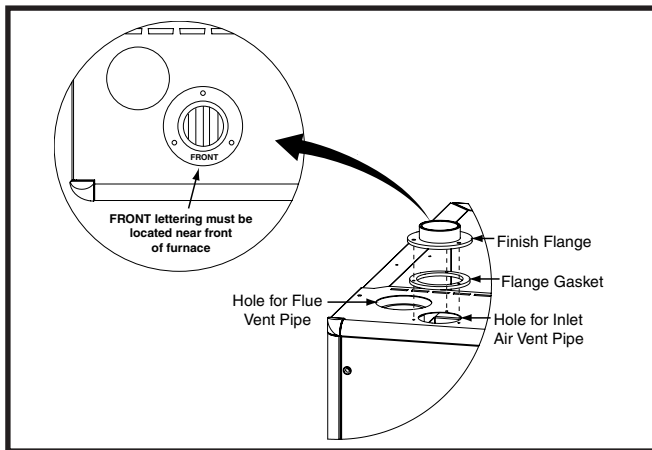
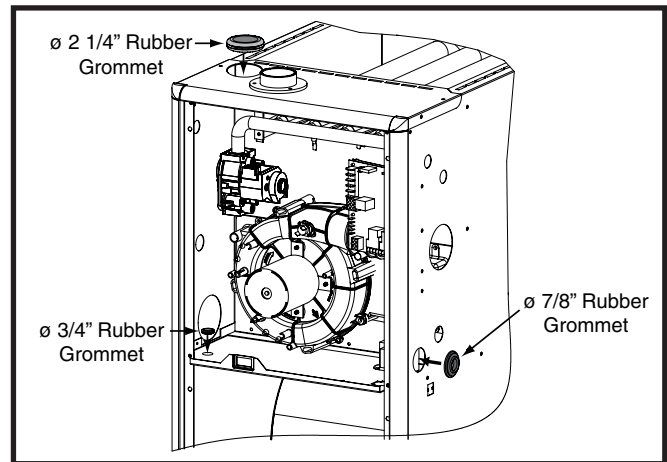
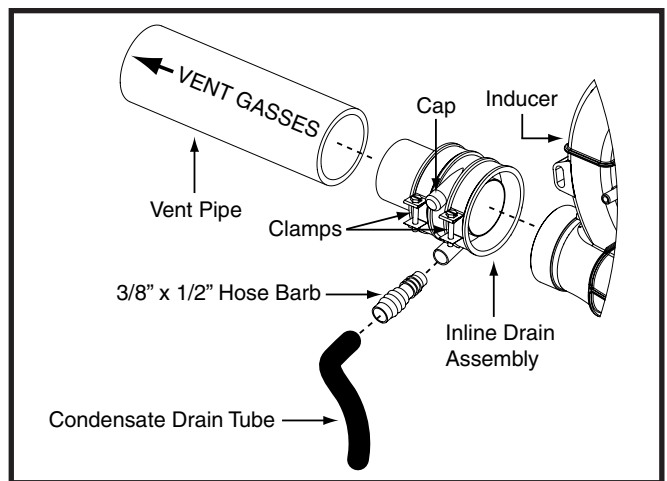
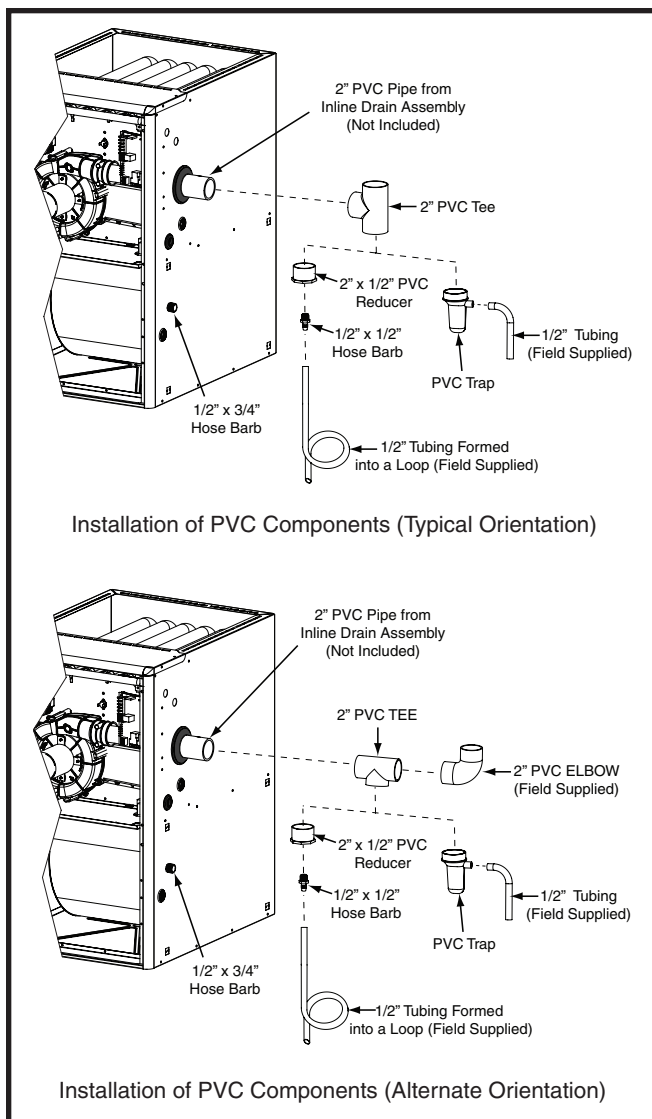

Figure 27. Finish Flanges
Figure 28. Rubber Grommets
Figure 29. Inline Drain Assembly
Figure 30. PVC Components
The components in Figure 27, Figure 28 \(page 20\), Figure 29, & Figure 30 are included in the extra parts bag that is supplied with the purchase of MG3(P,S) furnaces. Depending on your particular installation, some of these components are optional and may not be used. Please refer to the descriptions and accompanying figures when installing these items.
The finish flange must be installed to vent the combustion air pipe through the top of the furnace. See Figure 27.
The 2 1/4" rubber grommet is used to seal the opening between the furnace cabinet and the 2" PVC vent pipe. The rubber grommet should be installed in one of the 3" holes prior to running the vent pipe out of cabinet. No sealants are required. See Figure 28.
1. If applicable, install the inline drain assembly on the inducer assembly. See Figure 29.
- The PVC components shown in Figure 30 are not provided in the extra parts bag. However the PVC Trap (P/N 664659) can be purchased thru your local distributor.
The PVC tee with PVC Trap or the reducer and 1/2" X 1/2" hose barb are used when the inducer is rotated to vent out thru the left or right side of the furnace cabinet. See Figure 30 \(page 21\). **NOTE:** If supplied with your furnace, PVC trap (P/N 664659) may be used in place of the reducer and 1/2" X 1/2" hose barb.
1. Install the PVC Tee vertically on the 2" vent pipe that is extending out the side of the cabinet. Permanently bond them together using appropriate primer and cement. Refer to the typical orientation shown in Figure 30.
1. Install the 2" PVC Tee horizontally on the 2" vent pipe that is extending out the side of the cabinet. Permanently bond them together using appropriate primer and cement. Refer to the alternate orientation shown in Figure 30.